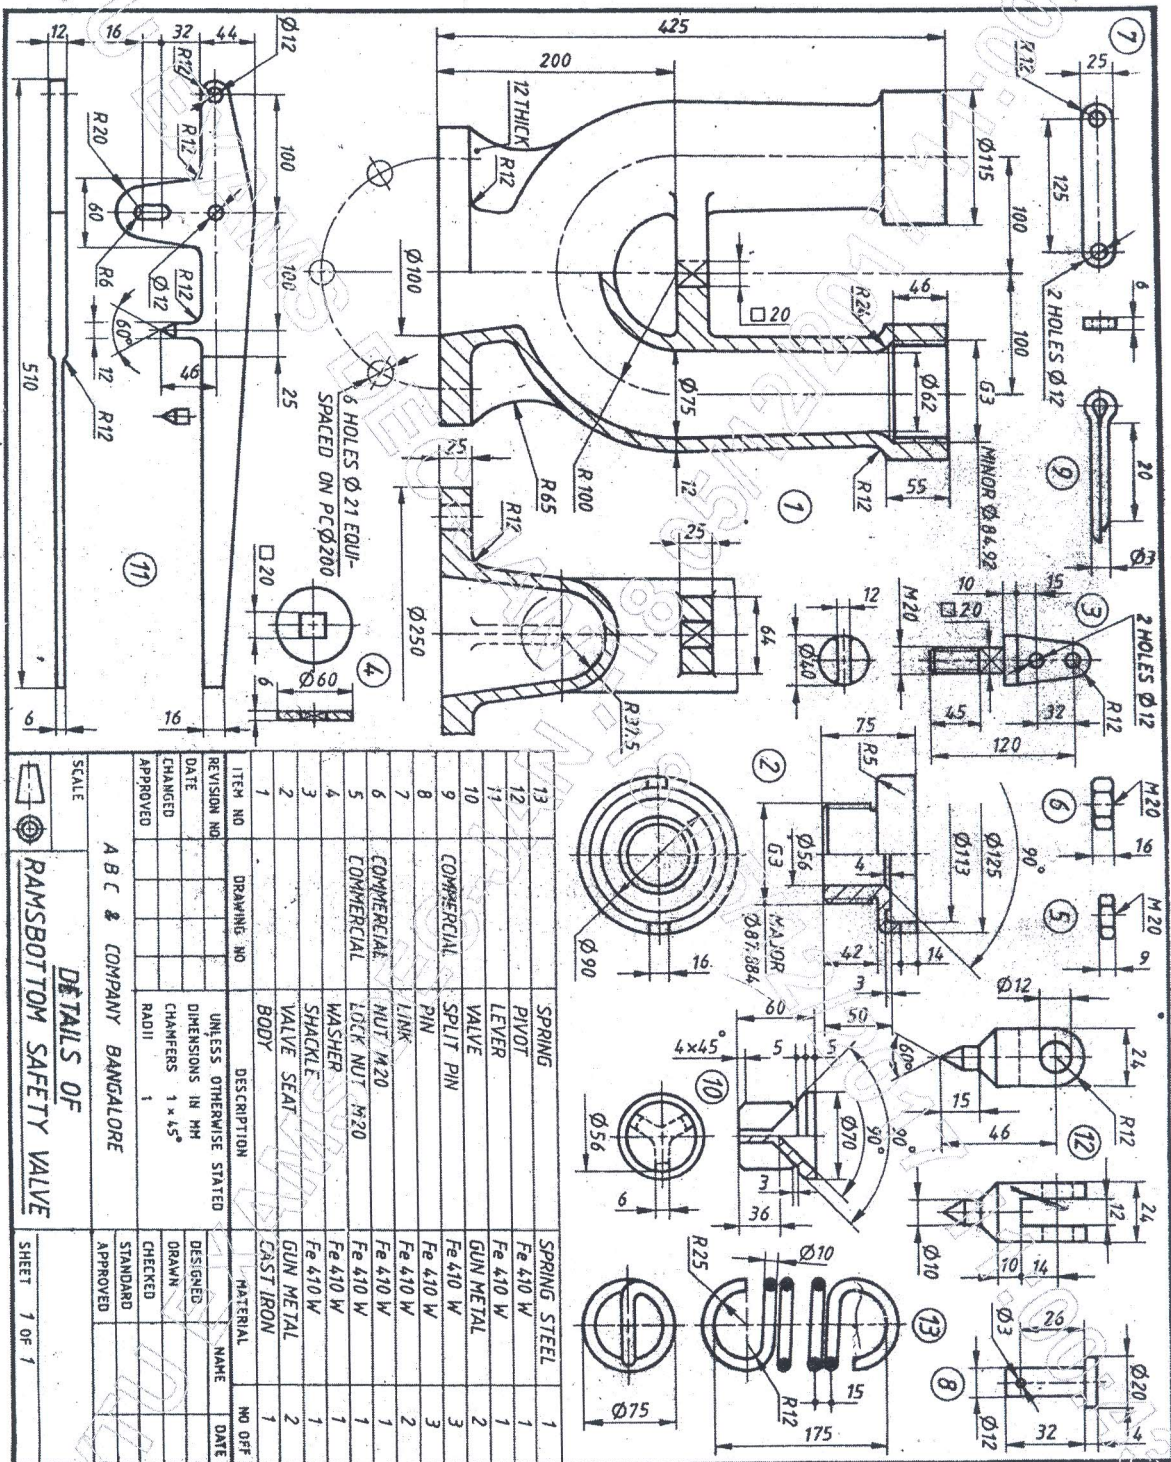

Figure 3. "RAMS BOTTOM SAFETY VALVE"
Q.No.6 Details of "RAMS BOTTOM SAFETY VALVE" is shown in following Figure 3. Assemble the parts and draw the following views. (a) Front View (b) Top View. **(50 Marks)**